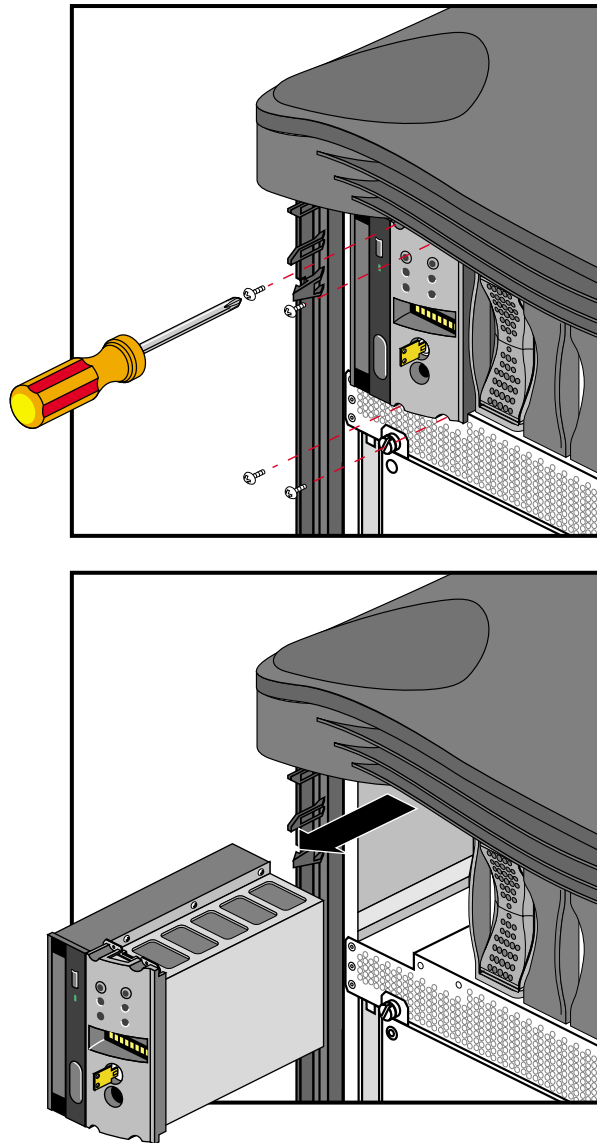

Figure 6-12 Removing the System Controller and CD-ROM
3. Remove and reserve the screws that hold the assembly in place, as shown in Figure 6-12.